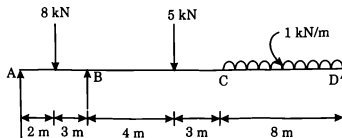

Figure 2
12. A Continuous beam ABCD 20 m long is simply supported at its ends and is propped at the same level at B and C as shown in Figure 2 :